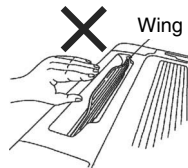

Fig. 9-2
- Do not touch the flap or apply force to it. (Fig. 9-2) (This may cause flap malfunction.)